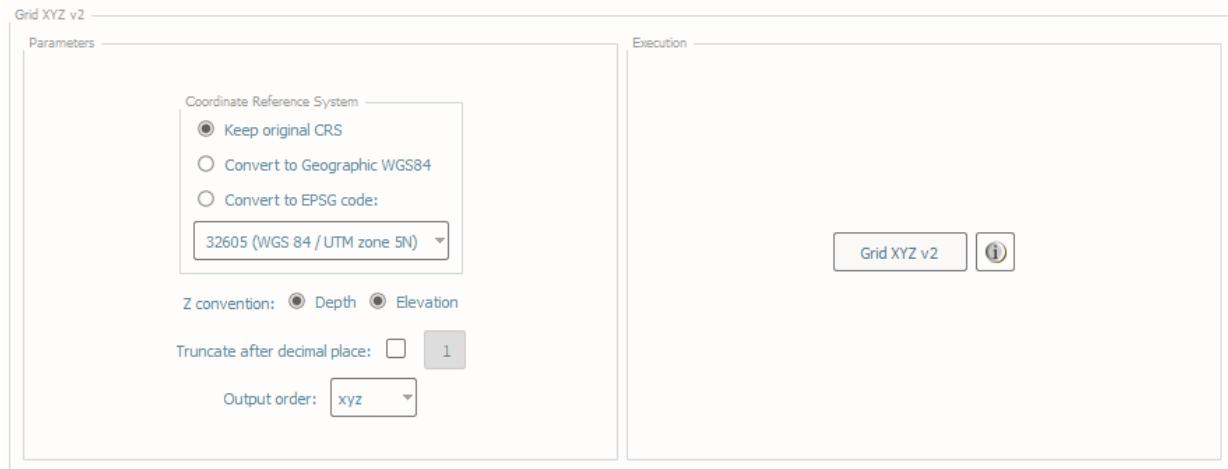

Fig. 2.59: Grid XYZ's interface.
- In **Execution** (Fig. 2.59), click **Grid XYZ v2**.